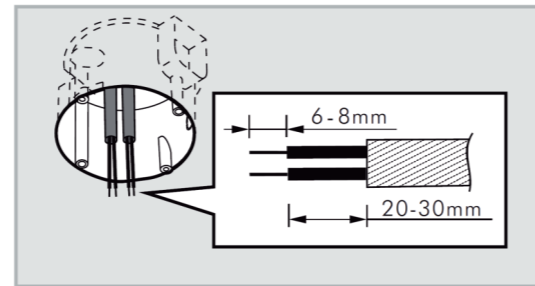

FIG. 13
3.4.2.1 Pull out AC power cables from European standard junction box (See FIG.13), then strip off 6 - 8mm of cable sheathing for wiring.